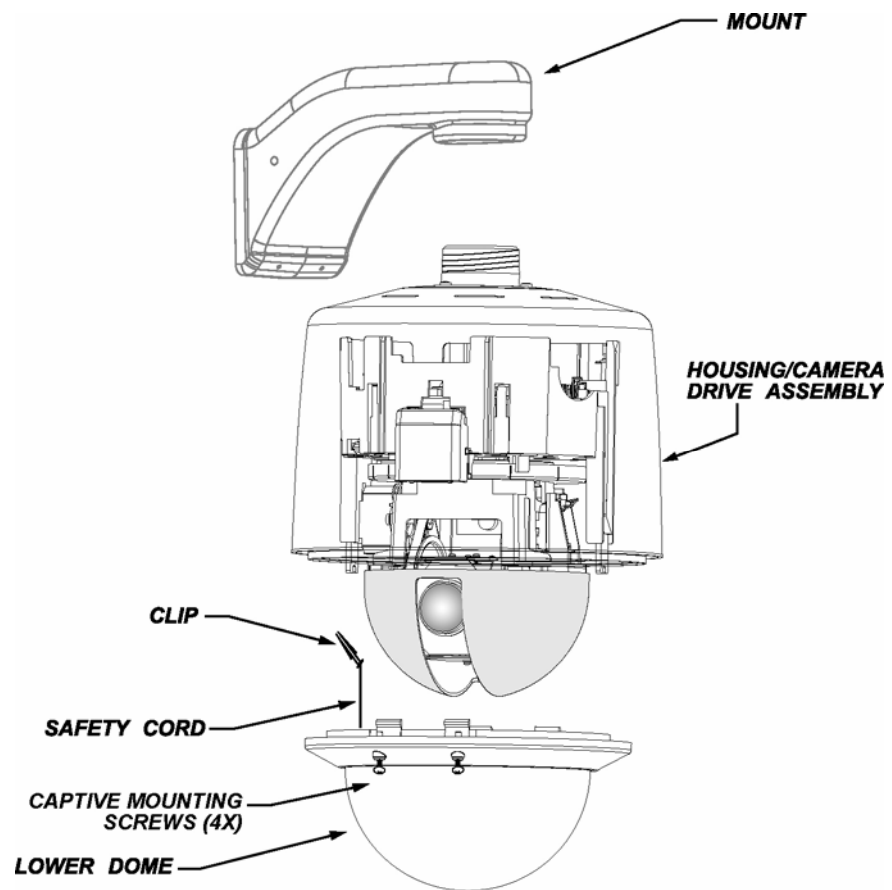

Figure 5
15. Holding the lower dome, line up the 2 molded tabs on the lower dome with the 2 parallel surfaces of the housing. Push the lower dome up and verify that it snaps into place on both sides. See Figure 5.